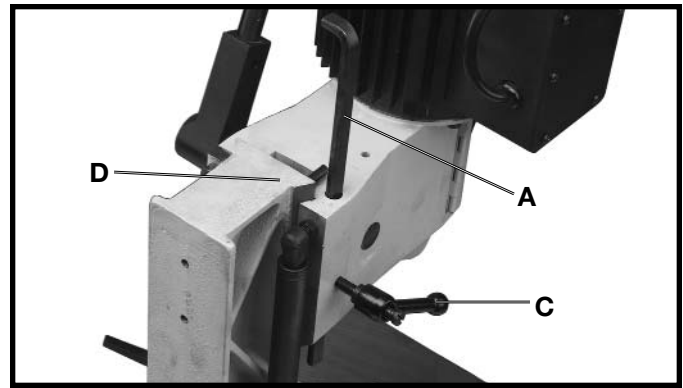

Fig. 23
A depth stop rod (A) Fig. 23, is provided to limit the depth of the chisel. To adjust the depth stop rod (A), loosen lever (C) and lower head until the chisel is at the desired depth. Lower depth stop rod (A) until it contacts the top of the column (D) and tighten lever (C).